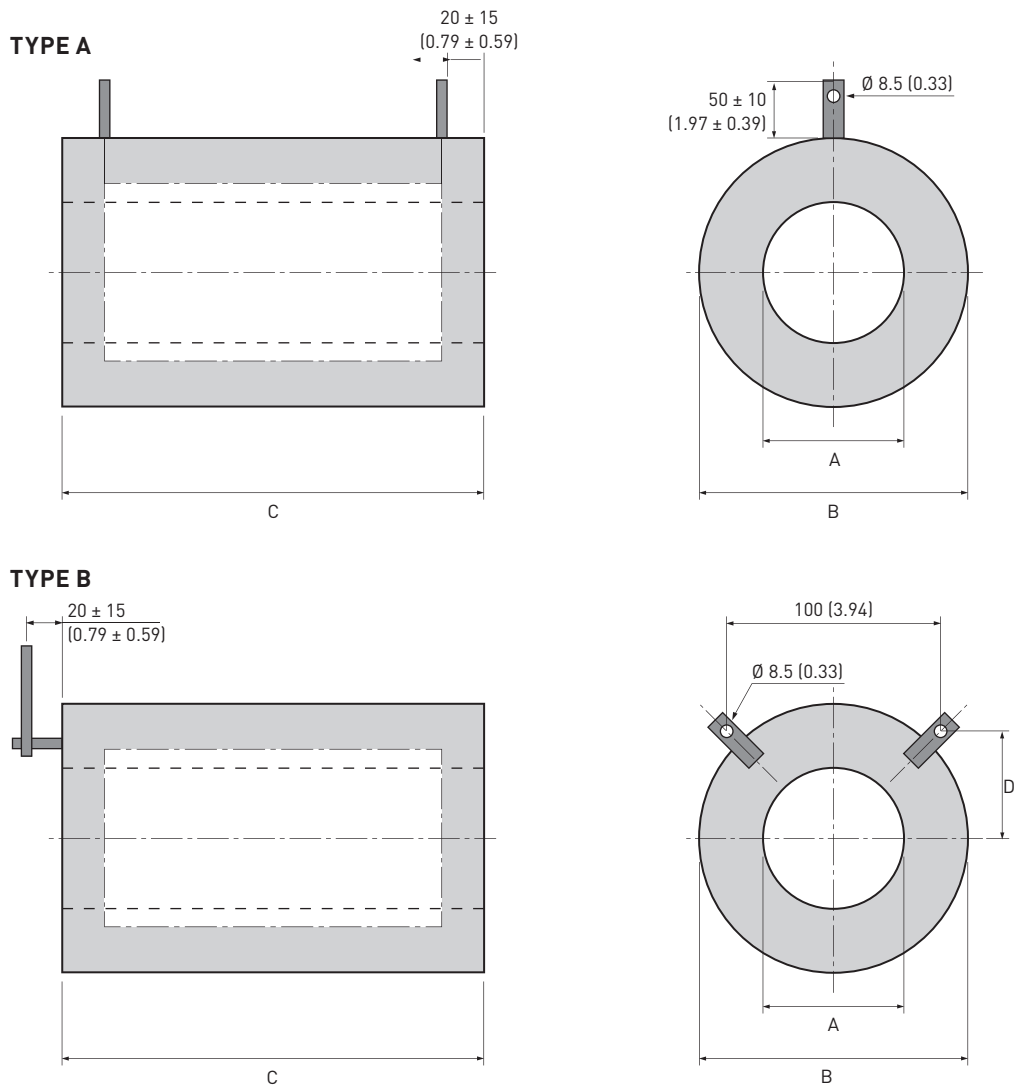

Fig. 12 Fibrothal® standard tubes.
- High power concentrations can be installed (see Fig. 12)